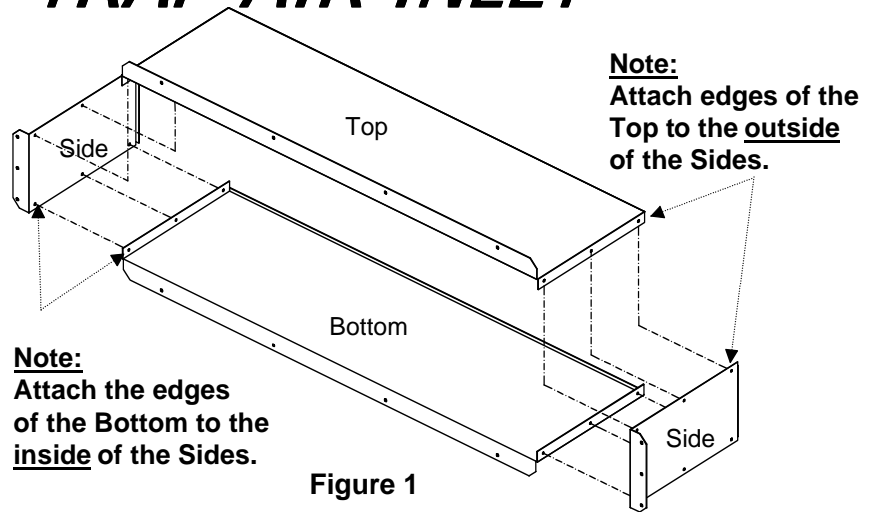
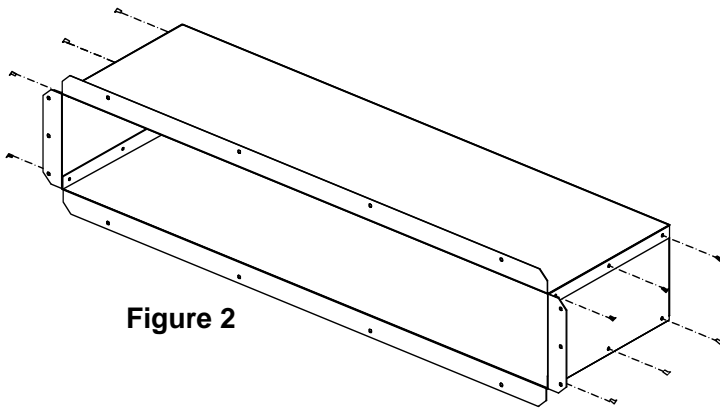

Figure 1
Figure 2
2. Fit the two Side panels onto the Bottom as shown in **Figure 1**. The edges of the Bottom panel fit inside the Side panels (See **Figure 1**). Connect the panels together using the 1/4 x 3/8 inch bolts provided in this kit, as shown in **Figure 2**.
3. Fit the Top panel onto the assembly as shown in **Figure 1**. The edges of the Top panel fit to the outside the Side panels. Connect the Top to the Sides using the 1/4 x 3/8 inch bolts.